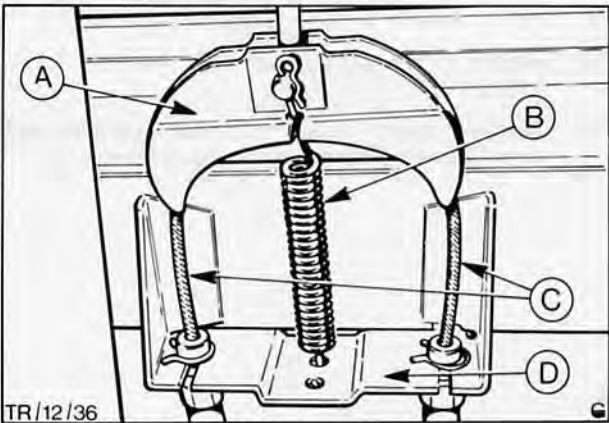

Fig. 23. A – Balancing yoke
19. Remove rag plugs, attach handbrake cable at rear to linkage and body, Fig. 23, adjust and bleed rear brake circuit.